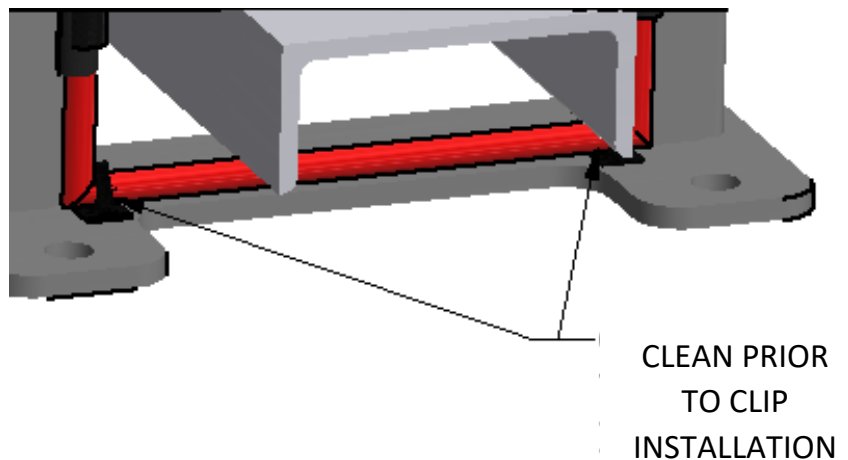

FIGURE 10
3: Clean the bottom plate (gate side at the bottom of the throat) where the adhesive backed clips will go with supplied alcohol wipes in the area shown in **FIGURE 10**.
4: Remove backing and install (2) supplied wire clips to the bottom plate of the throat as shown in **FIGURE 10** ensuring area is clean and dry.